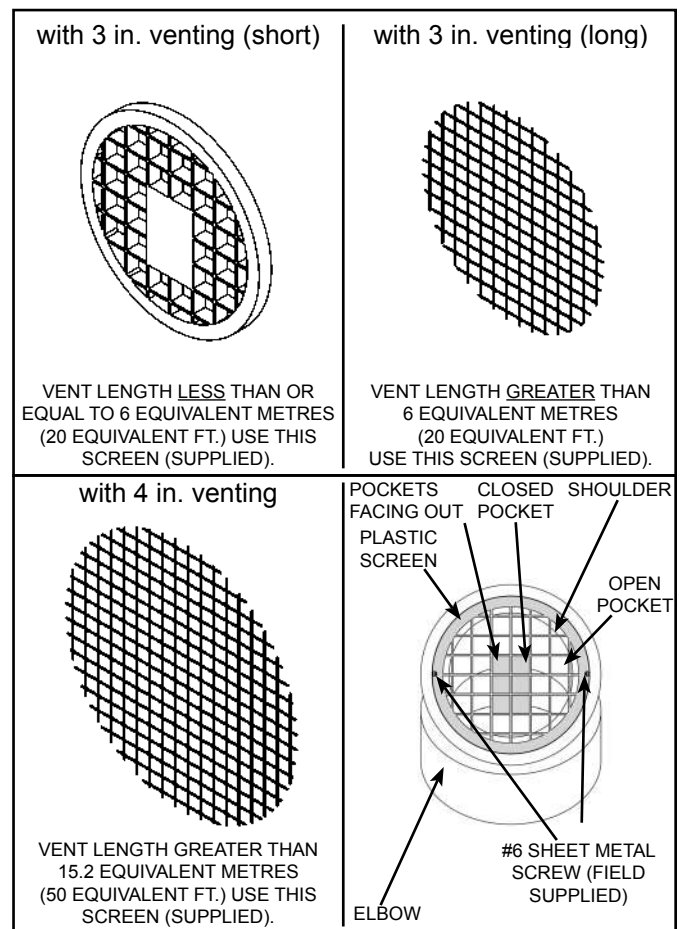

Figure 26
4. Secure screen in place with screws (field supplied) (see Figure 26).
* see Figure 26, "Venting terminations and sizing" and "Vent screen installation".